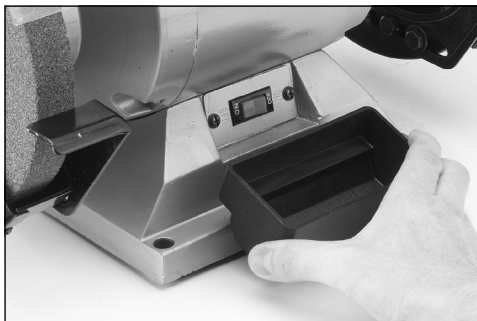

Fig. 7
6.6 Fitting the Cooling Trough (29621 only) (Fig.7)
- Fit the trough as shown in Fig.7.